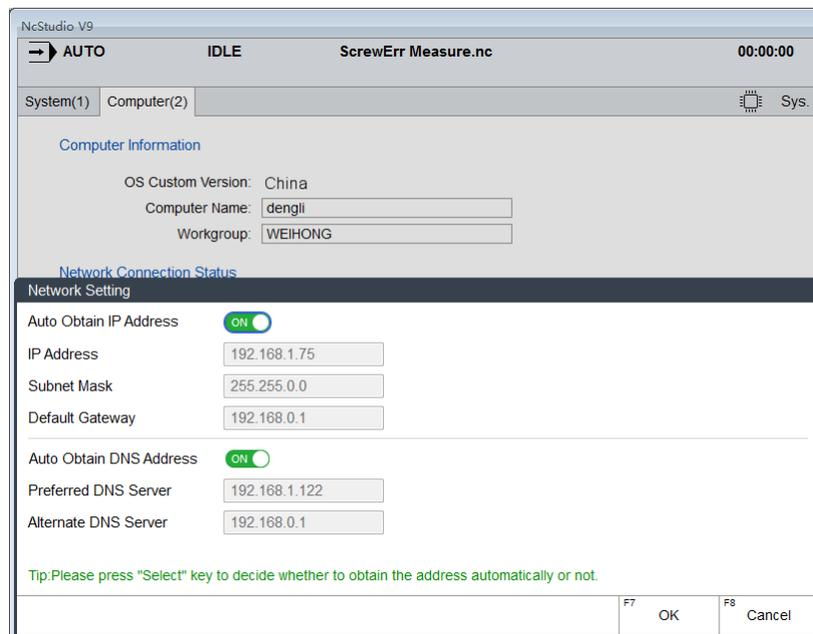

Fig. 3-80 Auto Obtain IP Address
DHCP function is enabled to achieve auto obtain. In sub-interface 「Computer (2)」, press F1 to open dialog box “Network Setting”. Press key “Select” to make the software obtain IP address automatically. See Fig. 3-80.
In Fig. 3-80, press letter key N to manually set the IP address.